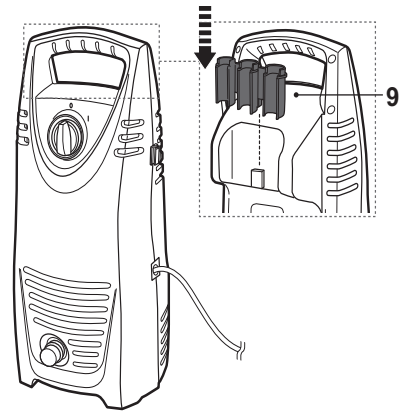

Fig. 2
- > Attach the accessory holder (9) to the product (Fig. 2).